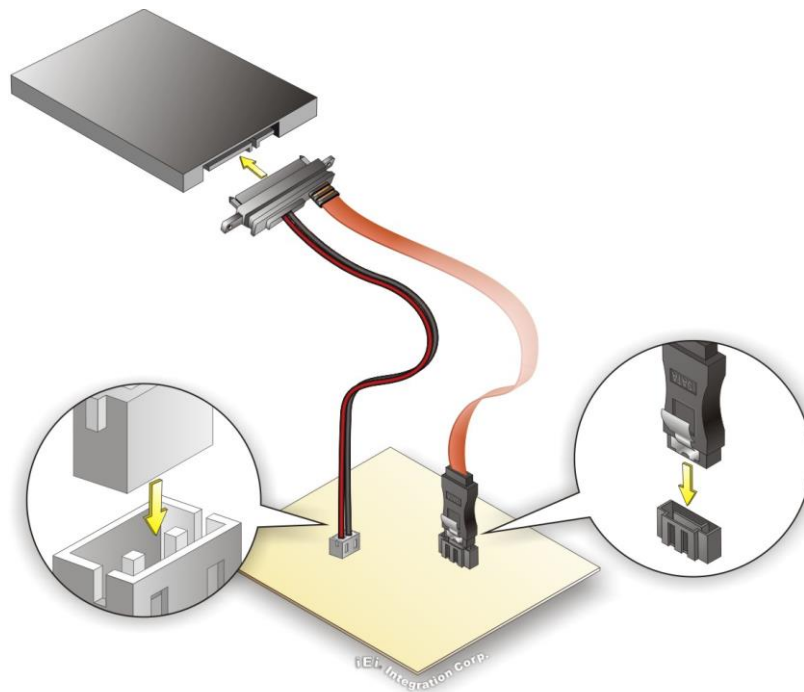

Figure 4-8: SATA Drive Cable Connection
Step 2: Insert the cable connector. Insert the cable connector into the on-board SATA drive connector and the SATA power connector. See **Figure 4-8**.
Step 3: **Connect the cable to the SATA disk.** Connect the connector on the other end of the cable to the connector at the back of the SATA drive. See **Figure 4-8**.